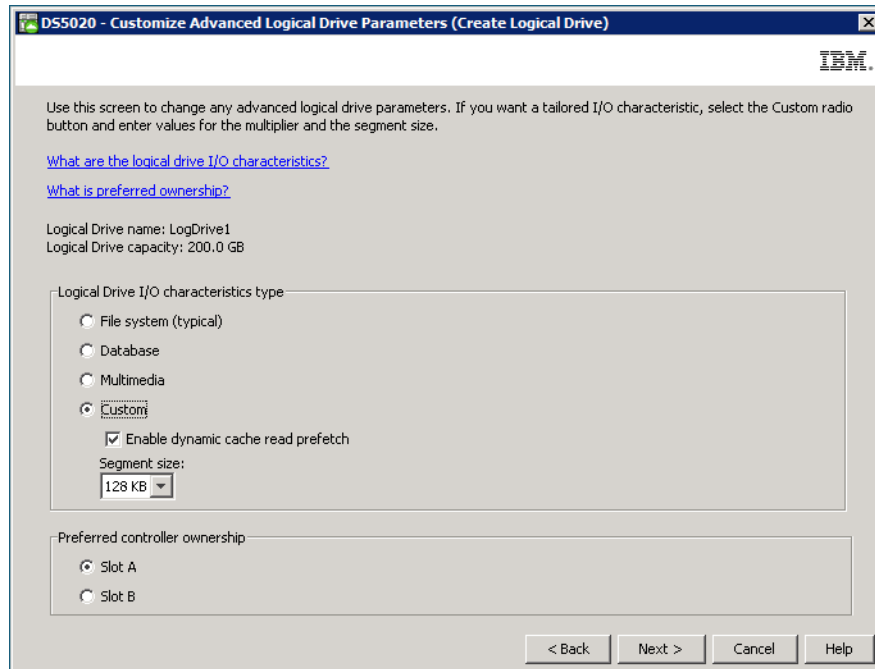

Figure 3-60 Customize logical drive parameters
7. The Customize Advanced Logical Drive Parameters window opens (Figure 3-60). You can set your new logical drive using any of the predefined I/O types listed, or manually set the cache read ahead multiplier, segment size, and controller ownership.